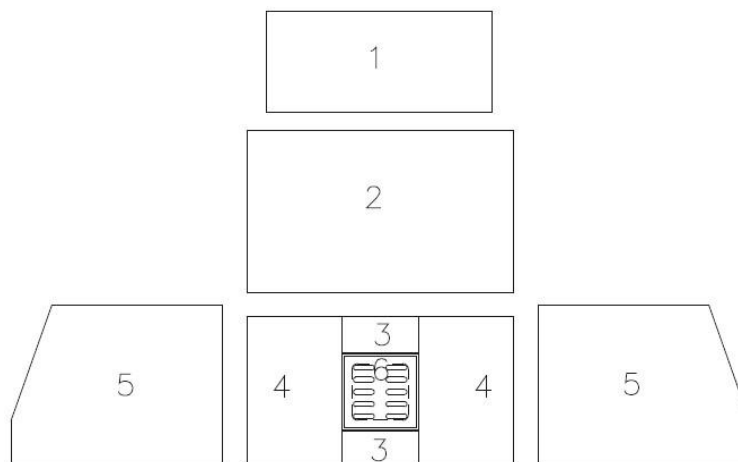

Fig.3
1.Top plate; 2. Secondary air regulator 3.Body with metal side plate; 4.Fire door; 5.Small handle (for regulator); 6.Primary air regulator; 7.Flue outlet; 8.Brick set (Fig.3); 9. Handle; 10.Grate; 11.Ashtray; 12. Safety bar.